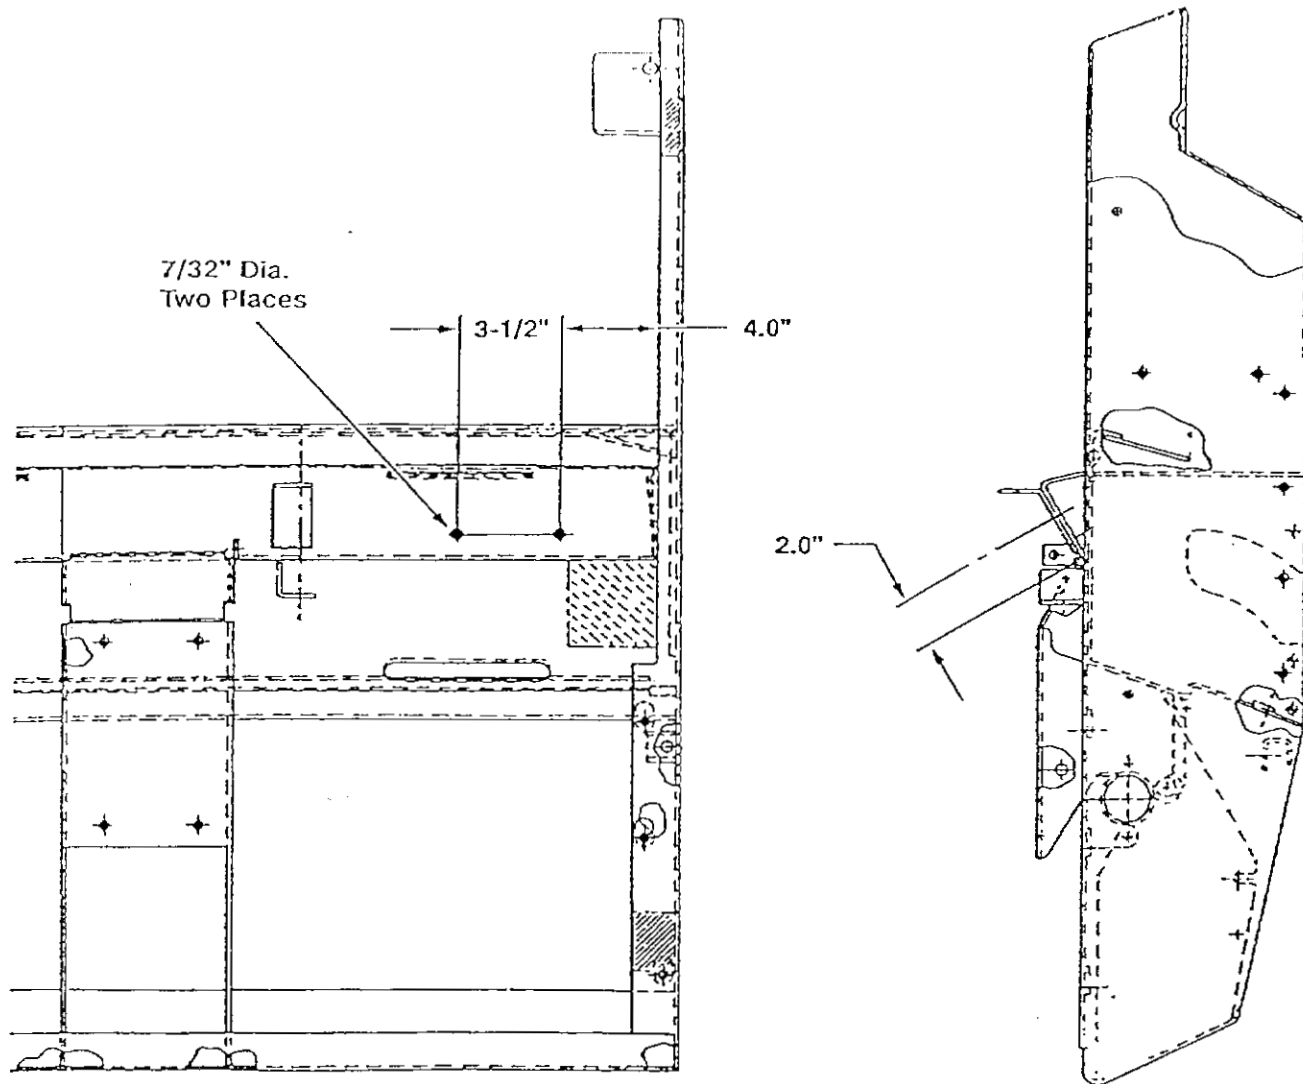

FIG. 2 – Machine Frame Hole Location
4. Drill two 7/32" dia. holes in machine frame. Refer to FIG. 2 for hole locations.
(Refer to Figures 2, 3)